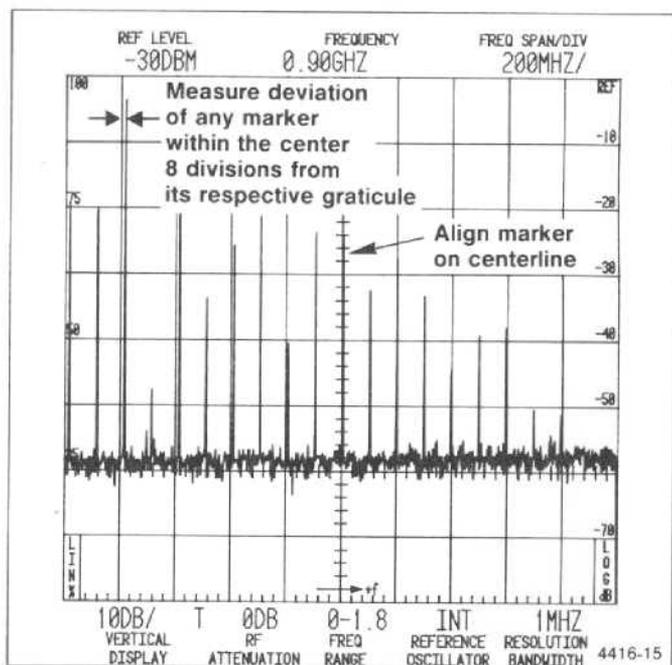

Figure 4-6. Typical marker display that shows how span/div accuracy is measured.
c. Apply the CAL OUT signal to the RF INPUT and adjust the FREQUENCY to align the 100 MHz markers so the 200 MHz/div accuracy can be measured over the center eight divisions of the display (two markers per division). It may be necessary to change the REF LEVEL to obtain adequate markers. Maximum deviation (see Figure 4-6) must not exceed 10 MHz (0.25 minor divisions).